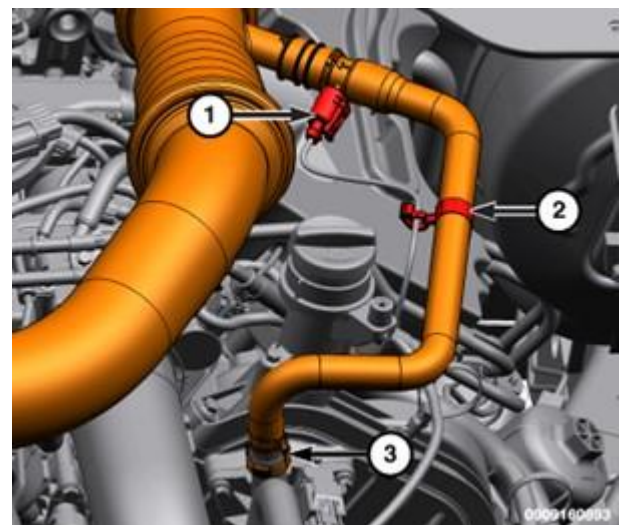

Figure 4 – Closed Crankcase Ventilation Connector
8. Disconnect the Closed Crankcase Heater Ventilation (CCV) heater wire harness connector (1) (Figure 4).
9. Detach the CCV heater wire harness retainer (2) (Figure 4).
10. Disconnect the crankcase breather hose (3) (Figure 4).